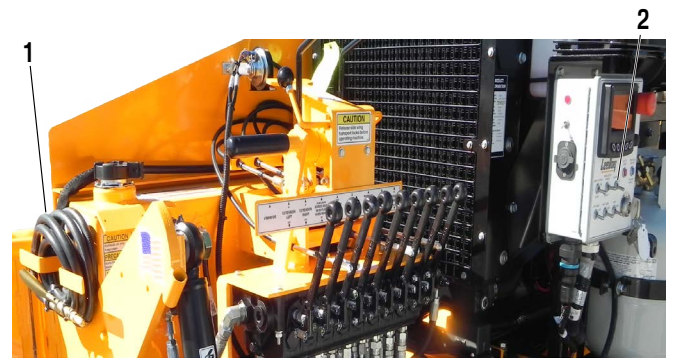

Figure 4-29. Spray Down Hose
3. Extend hose as needed and set Spray Down switch to ON (up) position. Squeeze the wand handle and spray. Release wand handle when done spraying. (Figure 4-29)